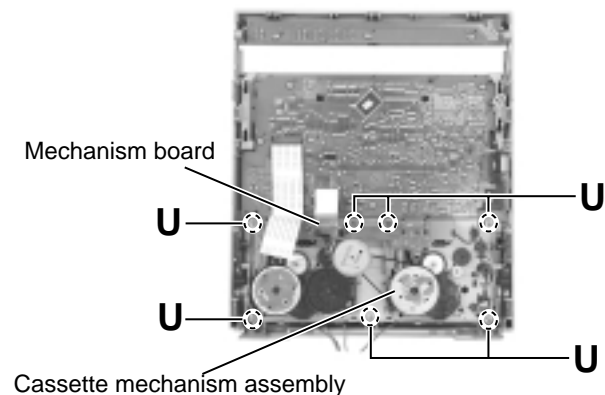

Fig.26
■ Removing the cassette mechanism assembly (See Fig.26)